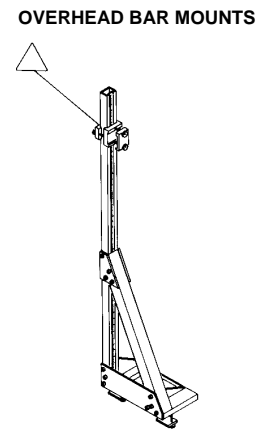

Figure 6
13. Adjust overhead bar mountings on vertical legs to setting inside this symbol . (See Figure 6.)